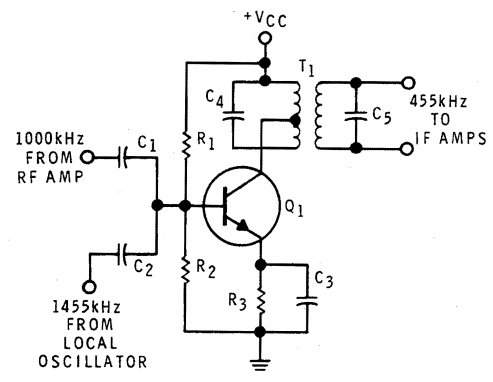

Figure 7-19
Figure 7-19 shows a transistor used as a mixer.  $R_1$  and  $R_2$  forward bias  $Q_1$ . However, the local oscillator signal is high enough in amplitude to drive  $Q_1$  to its nonlinear operating region. Thus, several frequency components will be present at the collector of  $Q_1$ . However, the collector circuit is tuned to the difference or intermediate frequency (IF). This frequency and its sidebands are amplified by additional stages before being applied to the AM detector.